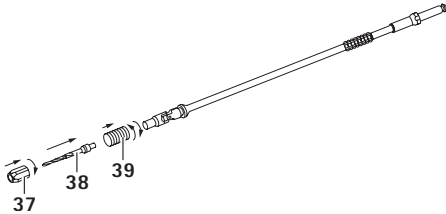
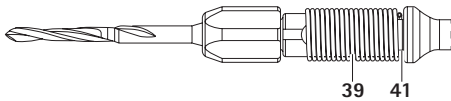

Fig. 17 Assembling ME189R
Fig. 18 Correct spring position
- ▶ Firmly thread the nut **37** over the drill bit towards the proximal end until it is fully threaded, see Fig. 17 and see Fig. 18.